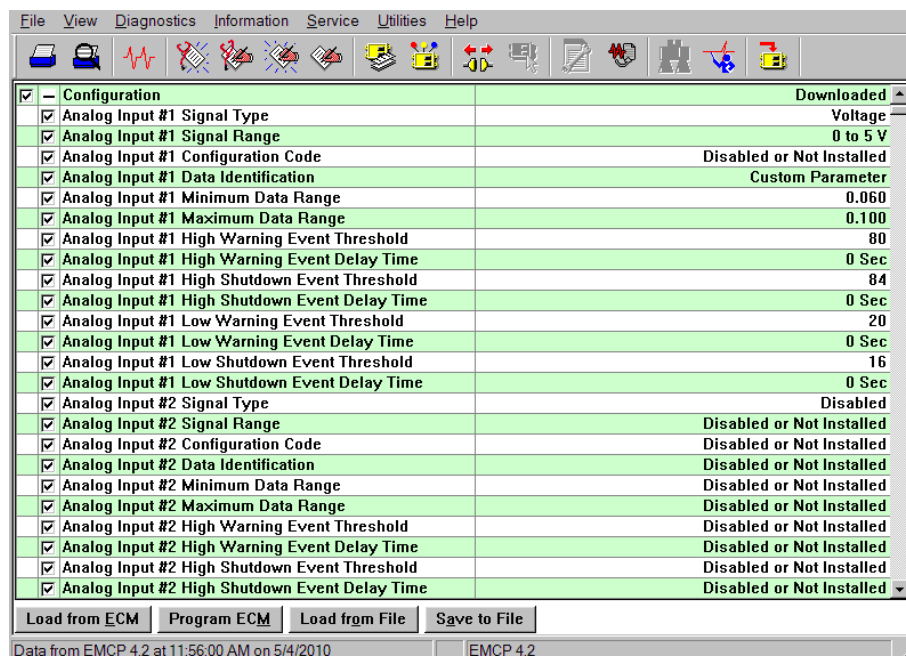

Figure 32: ECM Replacement File Parameters
- After the software loads the data, the replacement file parameters will be shown. See Figure 32.